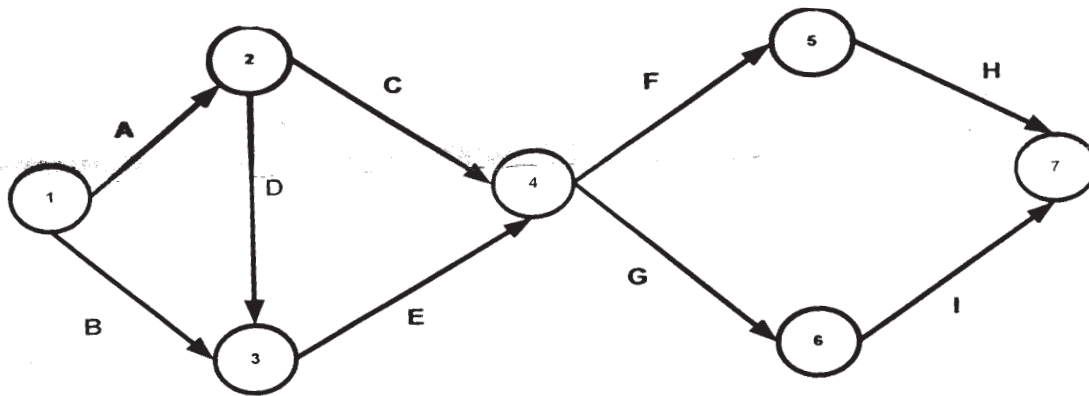

FIG 1. A Net Work
b) For the network shown in Fig.1, calculate the probability of completing the project in 50 days. The normal distribution table values corresponding to standard normal deviate of +1.03 and +1.04 are 0.3485 and 0.3508 respectively. Evaluate the following from the network diagram: [12]